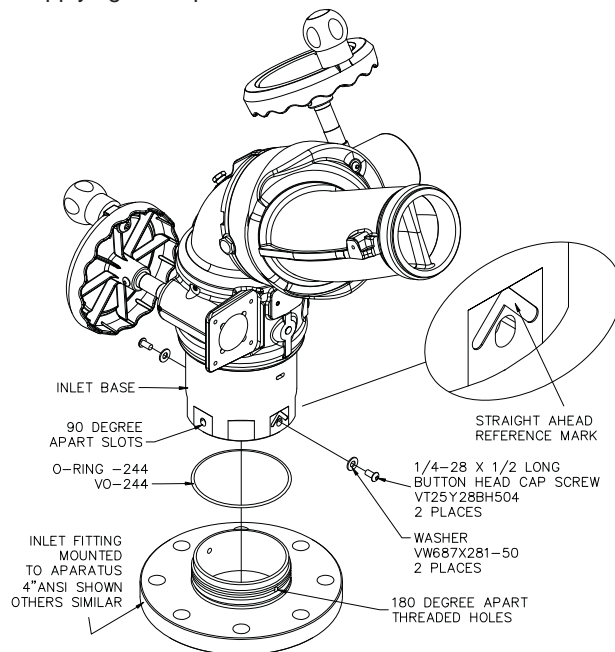

Fig 4.2.1B
The Monsoon Monitor is available with various inlet fittings as shown in fig 3.3. When the inlet fittings are used see figure 4.2.1A for the addition to overall height. The Monsoon Monitor also connects directly to TFT's Extend-A-Gun RC3 or RC4. The fittings and Extend-A-Gun RC are attached to the monitor by means of a threaded joint with an o-ring seal. Once in the proper orientation the threaded joint is locked from rotation by two 1/4-28 button head cap screws as shown in figure 4.2.1B. This makes for easy removal of the monitor since the large threads of the joint are not tightened and do not have any thread locking compounds on them. It is best to install the inlet fitting or Extend-A-Gun RC to the apparatus and then install the monitor to the inlet fitting or Extend-A-Gun RC. This gives more room to install the bolts in the case of flanged fittings. Referring to figures 4.2.1B and 4.2.1C the installation sequence is as follows:
- Mount so that 180 degree apart threaded cross holes will give desired direction relative to the "Straight Ahead Reference Mark" when the monitor is installed. See figure 4.2.1B.